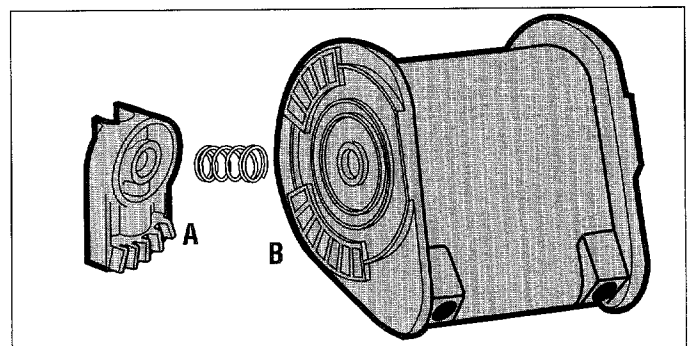

Figure 2: Move upper handlebar up or down to mate ratchet teeth (A) with corresponding slots (B). Three height positions are available. Retighten knob.
- There are three handlebar height settings. Select one by aligning the five teeth on the handlebar ratchet with five of the seven handlebar pivot slots— refer to Figure 2. Carefully move the upper handlebar so all five teeth are each within a slot. **NOTE:** Try the middle five slots first. Move the upper handlebar to the desired height, then rock the upper handlebar back and forth to "feel" when the teeth and slots are engaged.